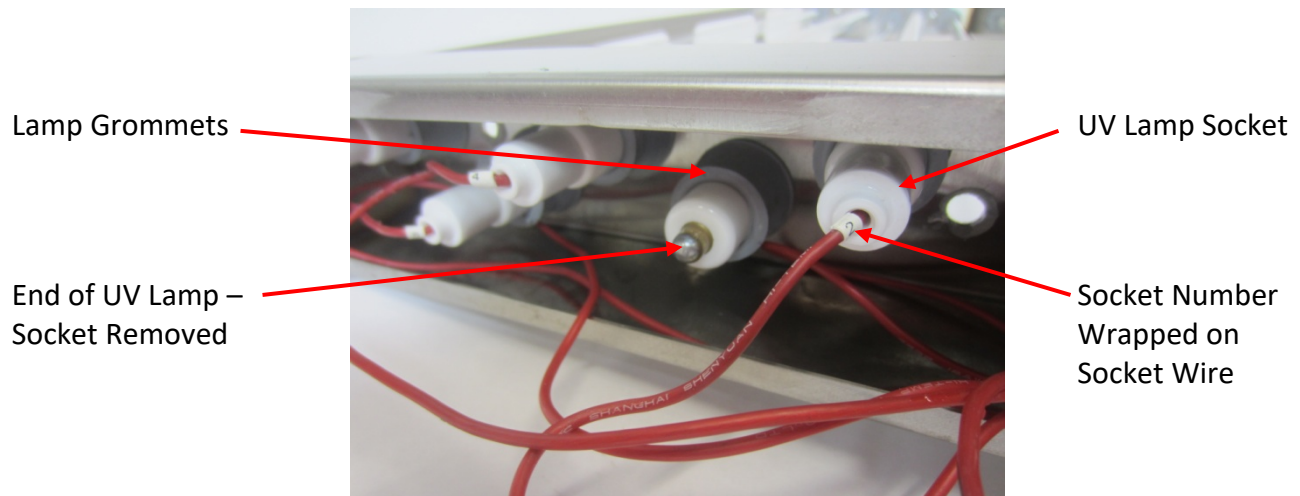

Figure 6-11-1
9. Slide off each UV Lamp Sockets from the Lamps at each end of the Module (Refer to Figure 6-11-1).
12. Inspect the Grommets around the Lamps (Refer to Figure 6-11-1). Replace any Grommet that show cracks, or any other damage.